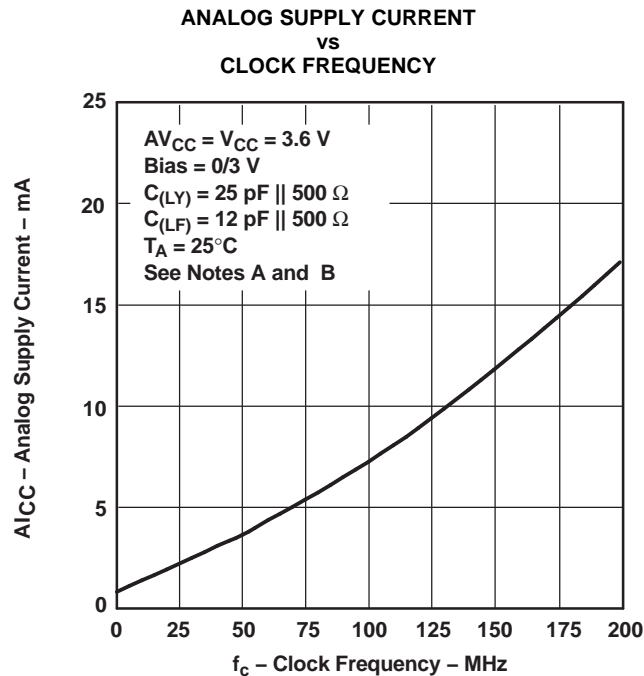
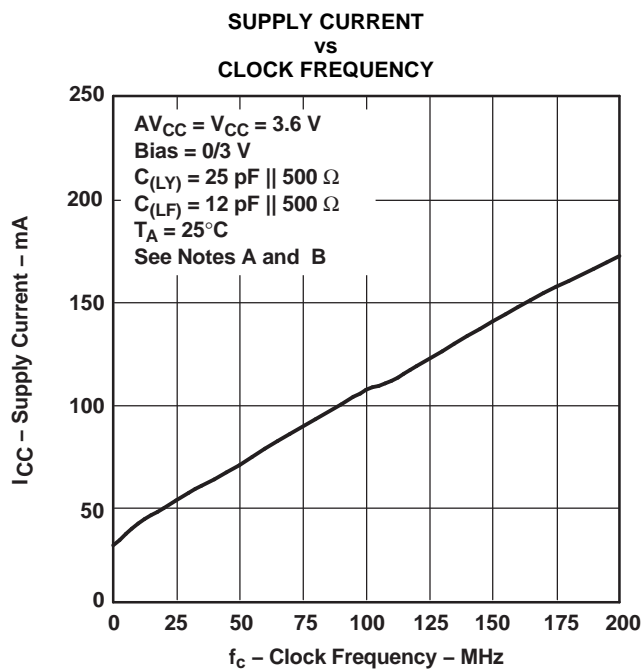

Figure 8.
Figure 9.
(1) For conditions shown as MIN or MAX, use the appropriate value specified under the *recommended operating conditions* section.(2) For dynamic I_{CC} vs Frequency, see Figure 8 and Figure 9.**SWITCHING CHARACTERISTICS**over recommended ranges of supply voltage and operating free-air temperature, C_L = 25 pF (see Figure 1 and Figure 2)^{(1) (2)}